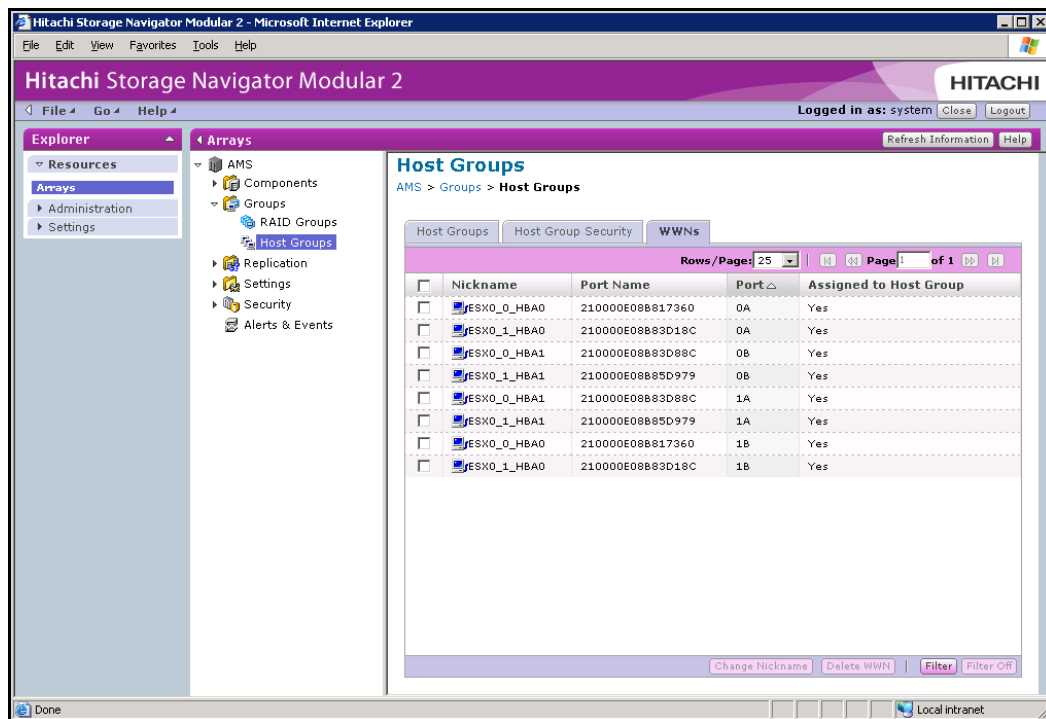

Figure 4-10: Example of WWPNS Mapped to Host Groups
10. If desired, use the **WWNs** tab in the Host Groups screen to view the WWPNS mapped to host groups (Figure 4-10 on page 4-12).